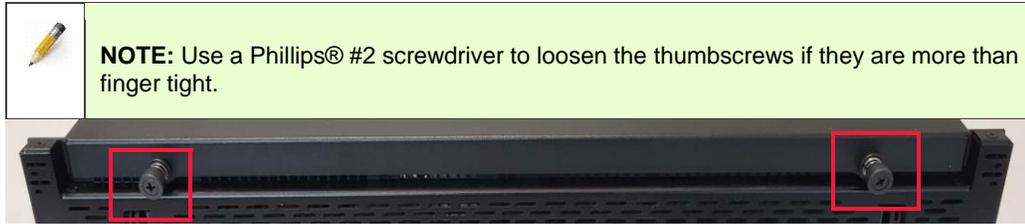

Figure 3.4 Top cover thumbscrews
- Loosen the left and right enclosure cover thumbscrews, which are located at the front edge of the chassis cover. The thumbscrews are identified in Figure 3.4.